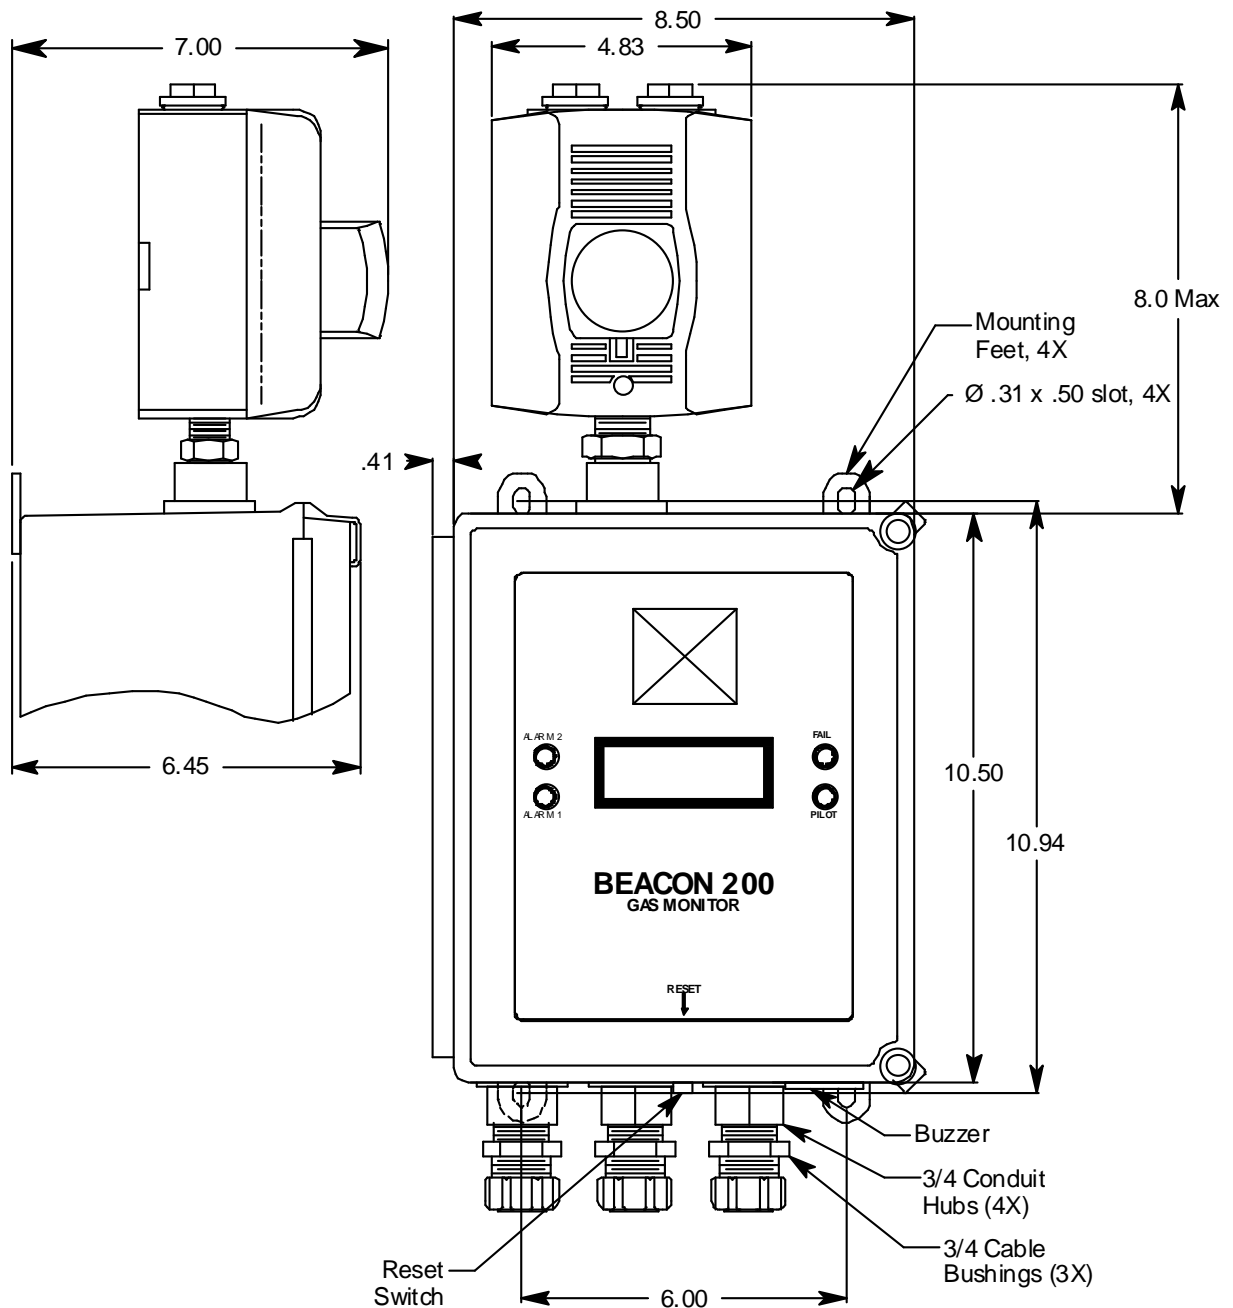

Figure 7. Beacon 200 Outline and Mounting Dimensions
4. The Beacon 200 is shipped with the mounting feet positioned behind the housing. Loosen the screws that secure the feet to the housing, rotate the feet to their mounting position (as shown in Figure 7), then tighten the screws.
5. Insert 1/4 in. or 5/16 in. screws through the slots in the mounting feet at each corner of the housing to secure the housing to the mounting surface (see Figure 7).
5. Connect the DC wires to the controller terminal strip as shown in Figure 7.